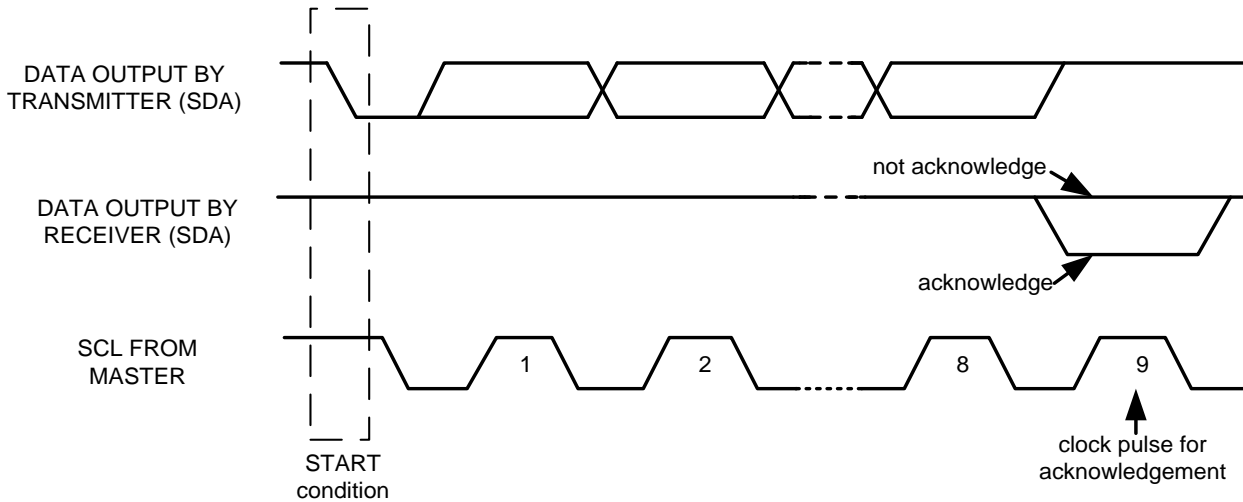

*Figure 5: I2C Start and Stop Conditions*
Communication on the I2C bus starts when the master puts the START condition (S) on the bus, which is defined as a HIGH-to-LOW transition of the SDA line while SCL line is HIGH (see *Figure 5* below). The bus is considered to be busy until the master puts a STOP condition (P) on the bus, which is defined as a LOW to HIGH transition on the SDA line while SCL is HIGH.